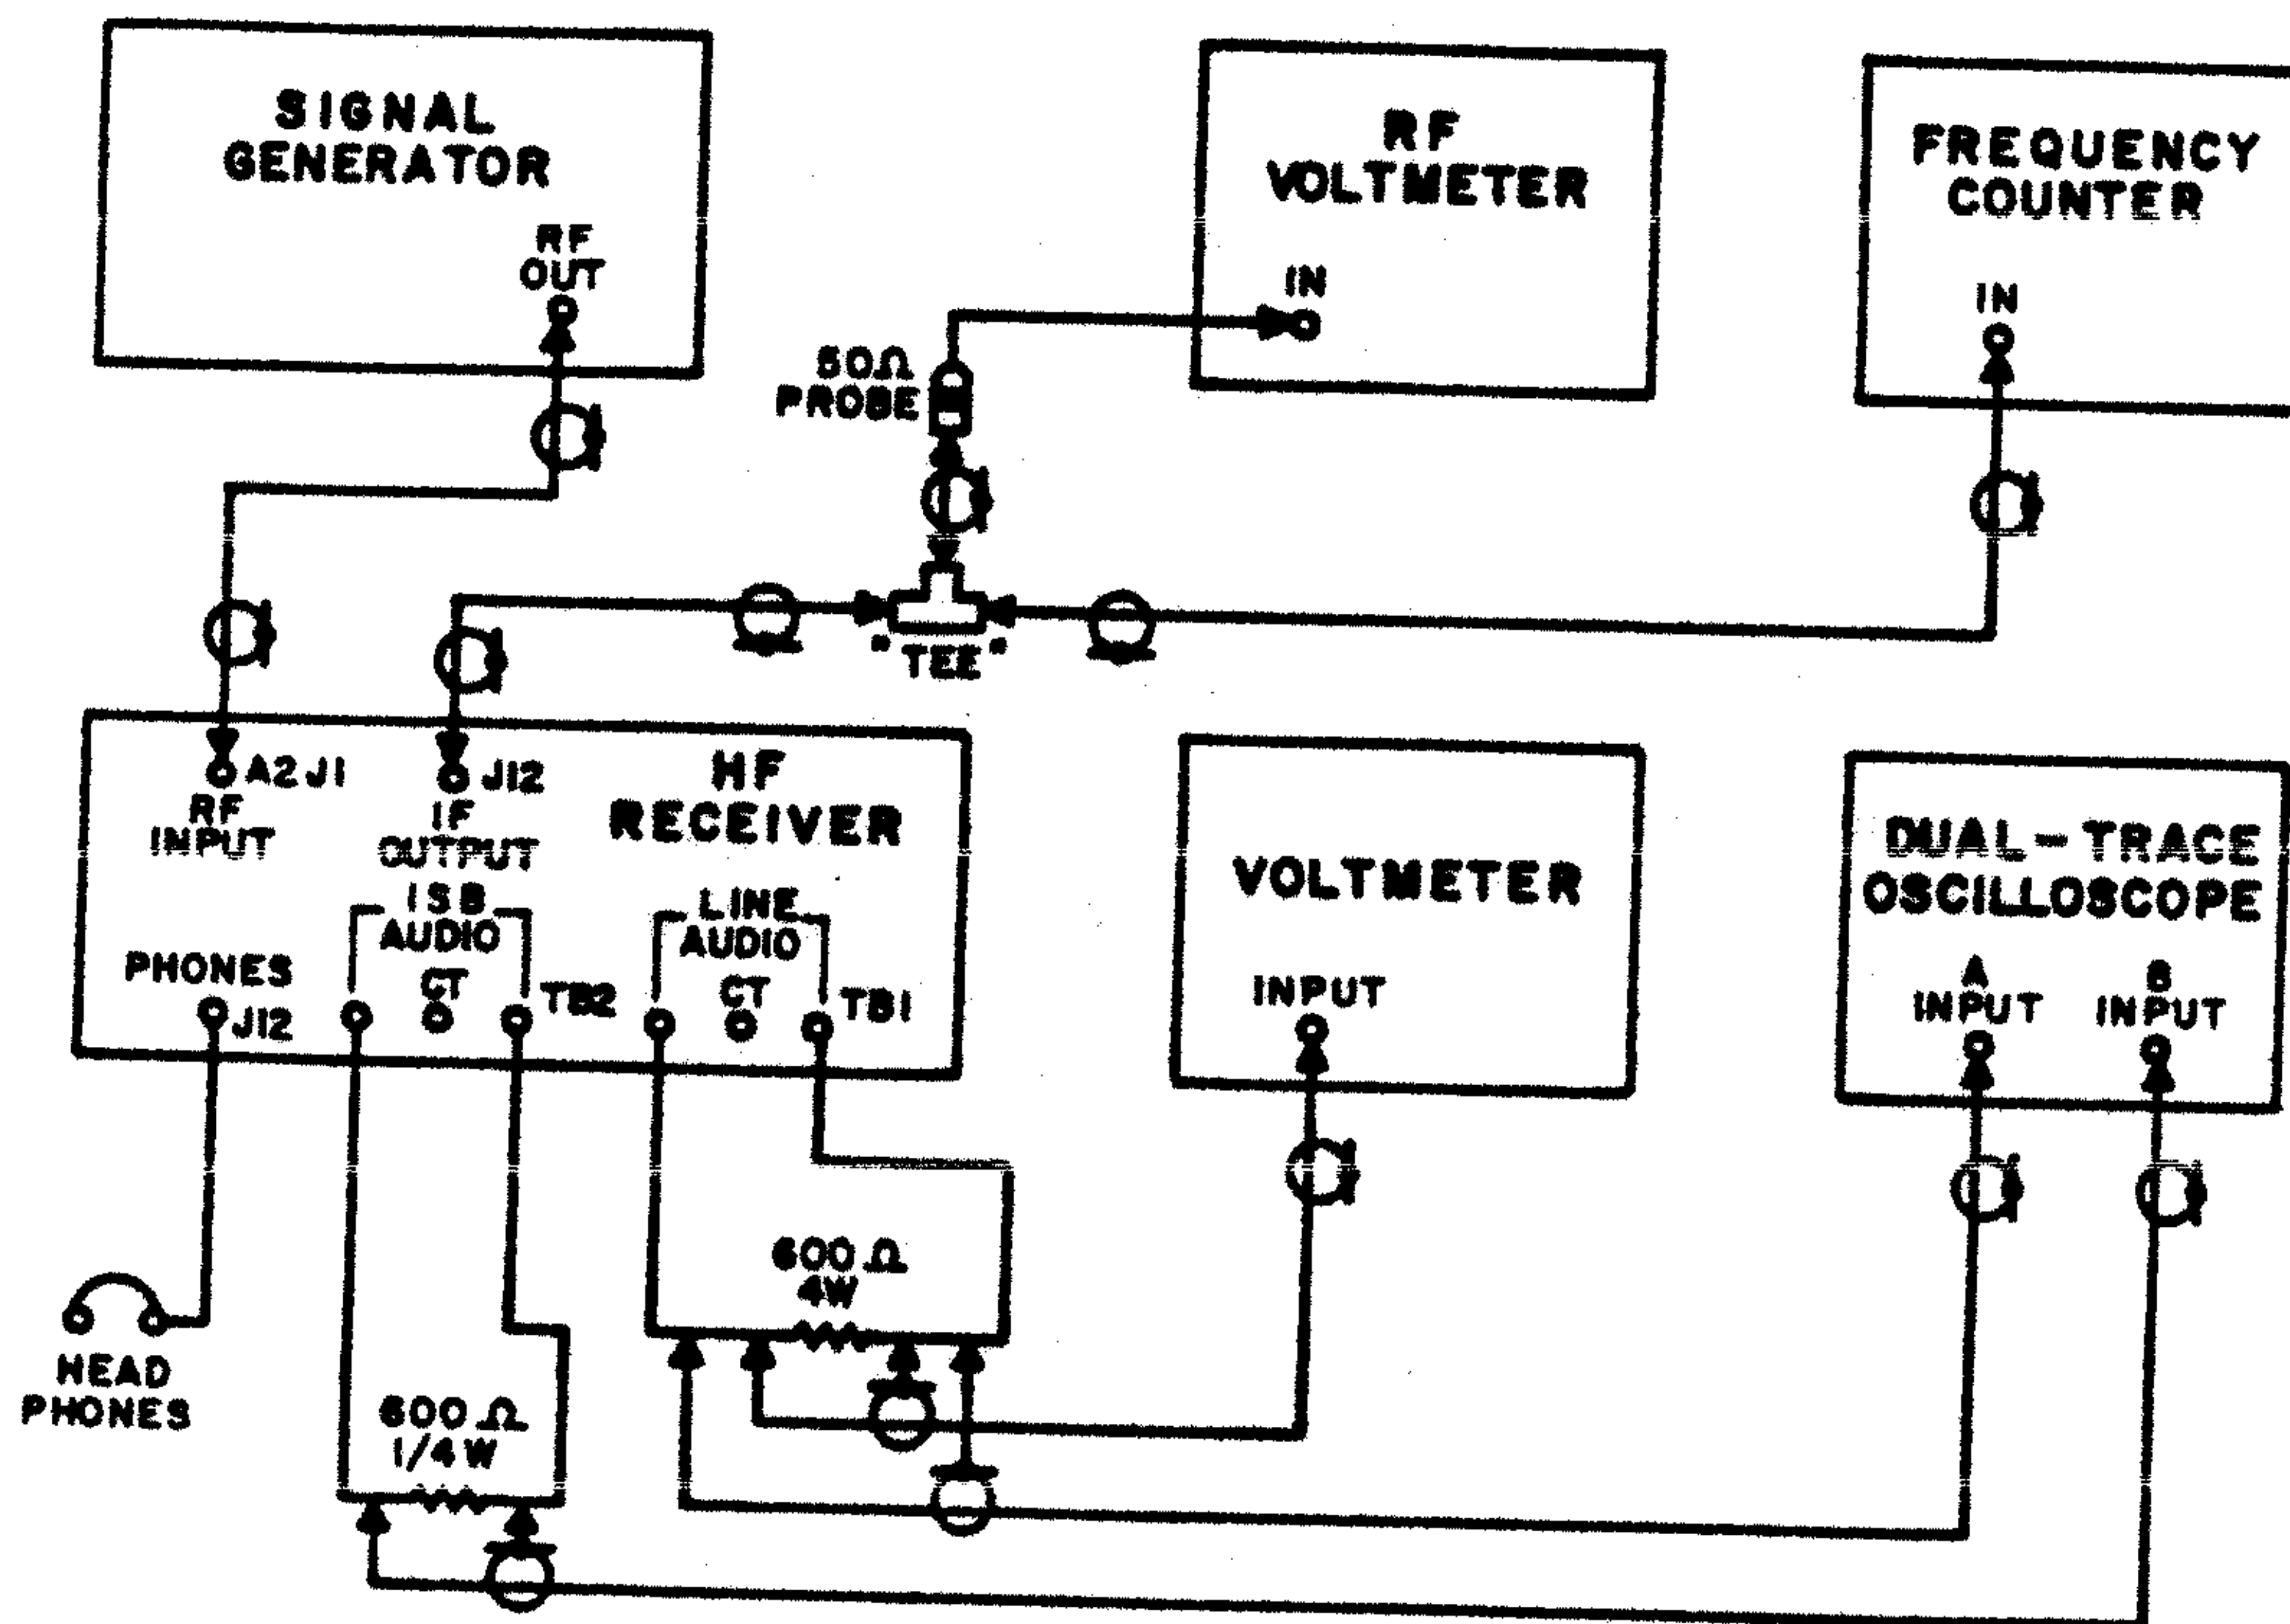

Figure 4-1. Receiver Checkout Procedure, Test Setup.
Checkout procedures for the receiver are contained in Table 4-2. Figure 4-1 details the overall connections between the receiver and the test equipment.
1. With the receiver deenergized, connect the test equipment as shown in **Figure 4-1**. Remove receiver top and bottom covers.